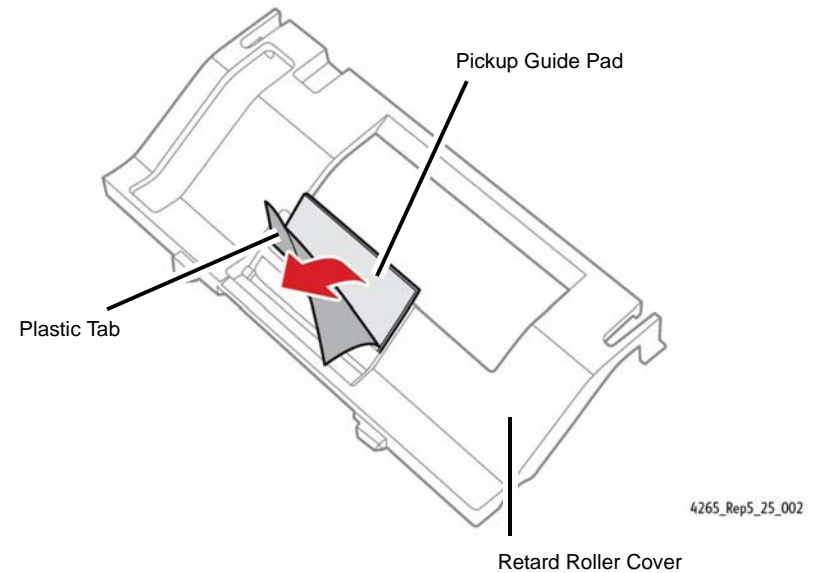

Figure 2 Inspecting/Replacing the Pickup Guide Pad
1. Inspect the condition of the Pickup Guide Pad. If the pad shows signs of excessive wear, replace the Pickup Guide Pad (Figure 2).